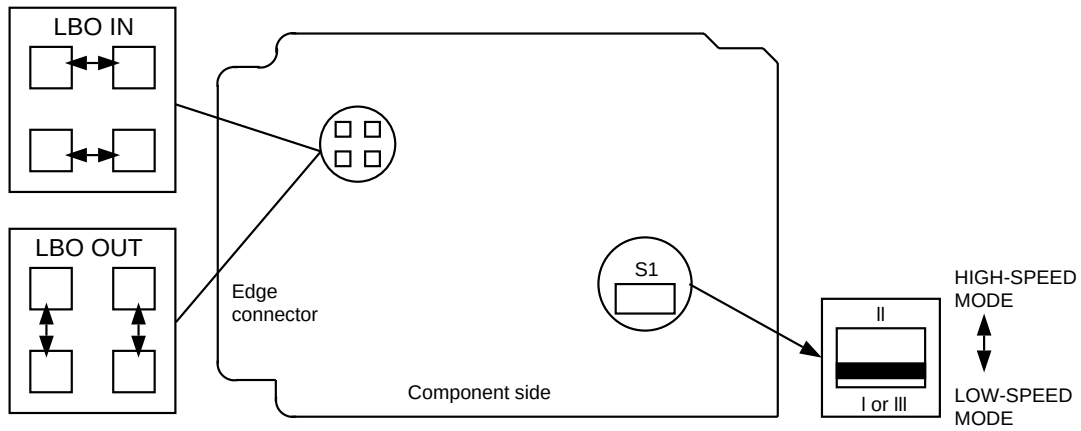

Figure 9. BBG6 STS1E Line Build-Out Jumpers and Mode Switch
29. Install the **STS1E** option jumpers per Table N and Figure 9.